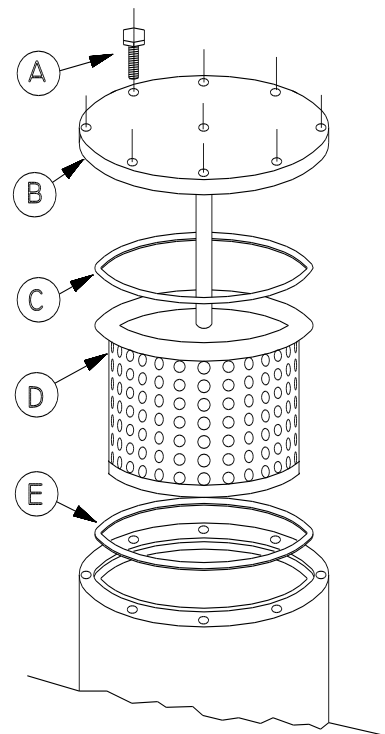

Figure 13.4-7 Oil separator filter
3. Loosen the screws (fig. 13.4-7 part A) and remove the flange (B).
4. Extract the filtering element (D) together with the seals (C) and (E).
5. Assemble the new seal (E) in the relative slot which has been previously cleaned. Endure that a metallic insert has been clipped to the seal in order to avoid the isolation of the filter and the accumulation of static electricity. Otherwise there is a risk of the separator filter catching fire.
7. Assemble the second seal (C) with the same precautions as above.
8. Reassemble the flange (B) in the pre-assembly position.
9. Tighten the bolts (A), with a tightening torque of 80 Nm.
13. Stop the machine with tank depressurized to 0 bar, re-check the screw tightening (A).